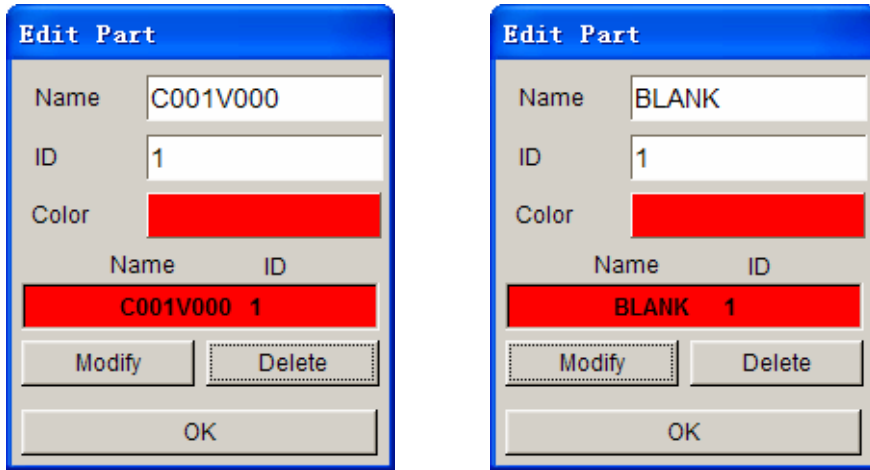

Figure 2.5: Edit part dialog box
2. Select **C001V000** from part list shown in Figure 2.5. In the Name input field, enter **BLANK** following by clicking **Modify** button in the lower left corner of the dialog box to complete the operation. You may also change the part color.